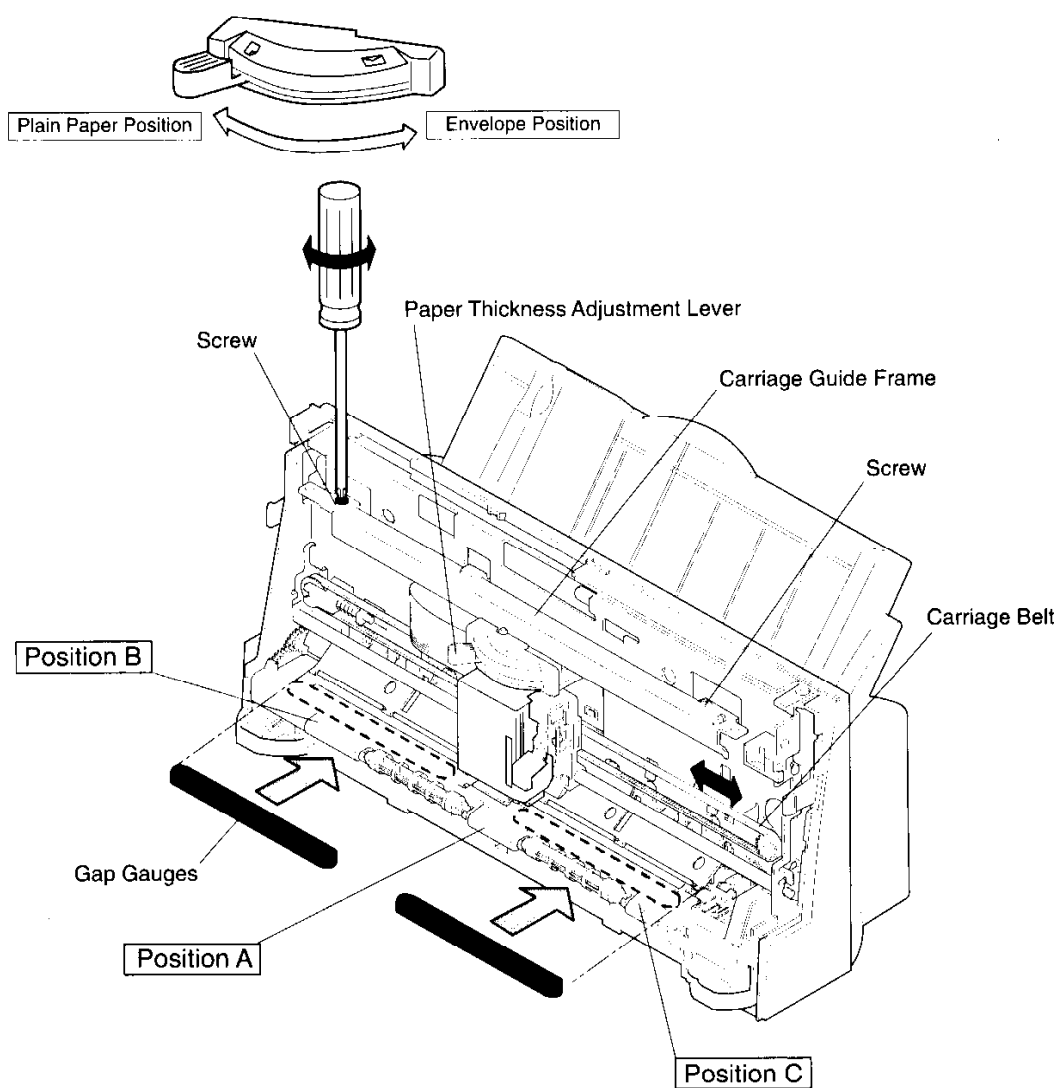

Figure 4-4 Head Gap Adjustment (1)
- 2) Position the two gap gauges at the left side as shown in Figure 4-4.
- 8) Position the two gap gauges at the right side as shown in Figure 4-4.